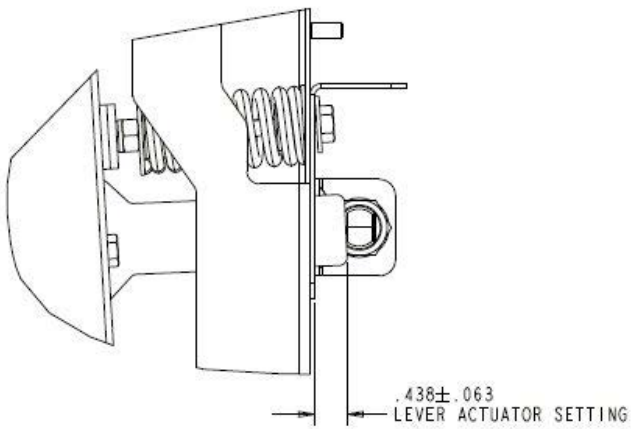

Fig. 50
5. Verify position of conveyor anti-jam actuator plate and jam sensor to ensure they are positioned as shown below and adjust as necessary (Figs 50 and 51).